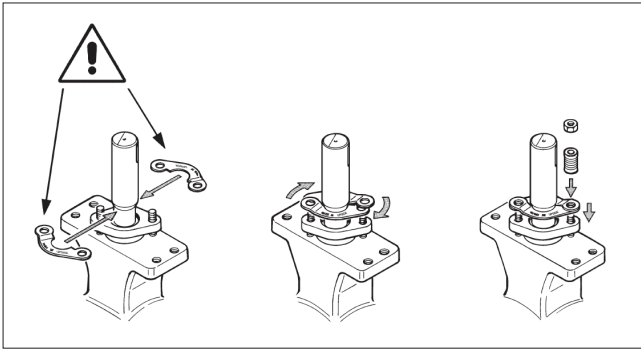

Fig. 11 Mounting the retainer
- Unfasten the nuts (43) and remove the disc spring sets (21), the retaining plates (24) and the gland (9).
- Remove old packing rings (22). Do not damage the surfaces of the packing ring counterbore and shaft. It is not necessary to change anti-extrusion ring (23).
- Install the retainer plates, one on top of another on the stud and the opposite another way around (Figure 11). Once the retainer plates are in the right place, install the other stud.